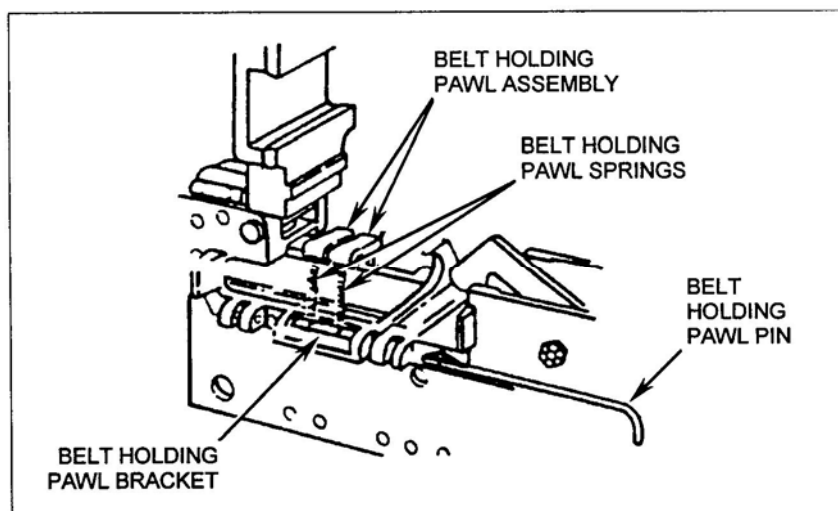

Figure 25. Installation of the belt holding pawl assembly.
- (2) Install belt holding pawl pin with hooked end to rear.
- (3) Seat belt holding pawl springs in place on the belt holding pawl bracket.
- (4) Place belt holding pawl assembly on the springs. Compress springs and insert belt holding pawl pin (Figure 25).